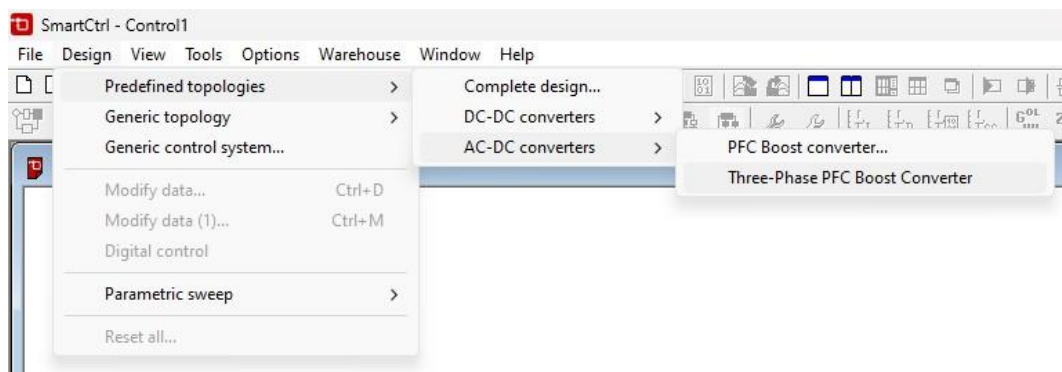

Figure 6: Alternative access to design a Three Phase PFC Boost Converter
- b) Select the corresponding option within the Design menu. See Figure 6.